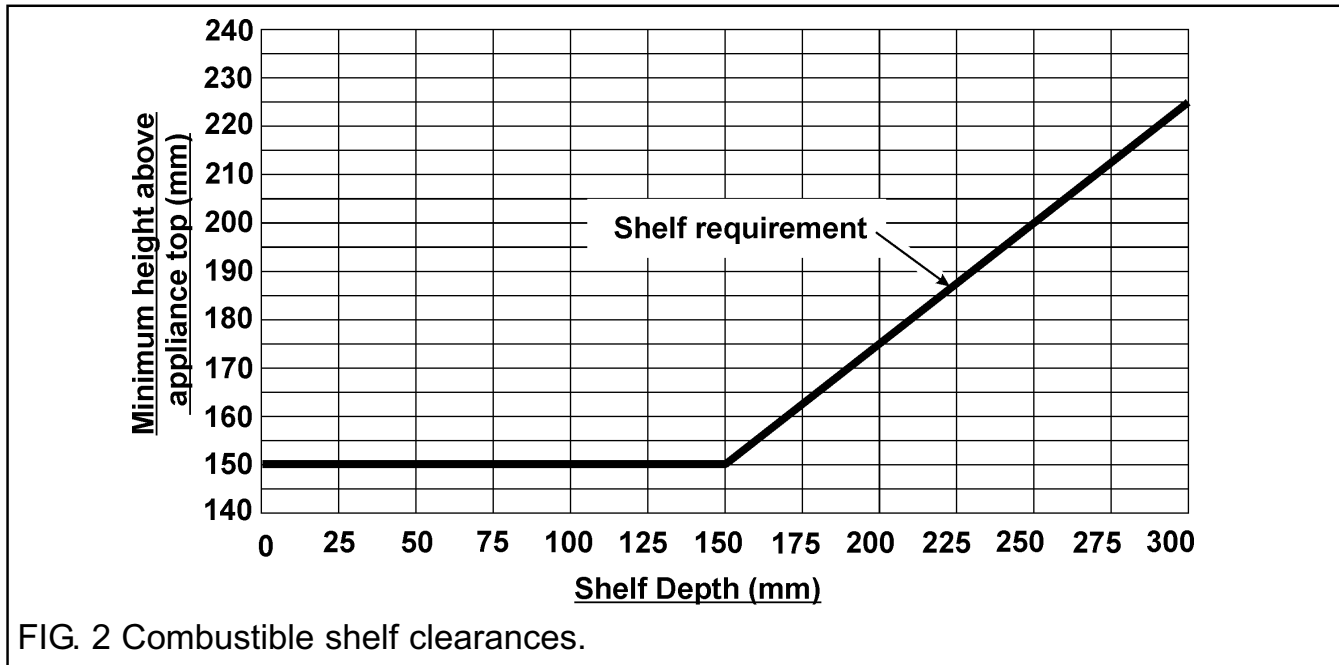

FIG. 2 Combustible shelf clearances.
4.3 Fireplace clearances (See Fig. 2).